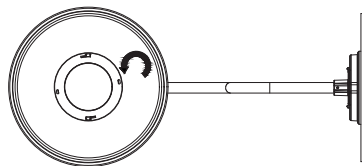

Fig 1
1. Loosen the 2 screws on the cover and rotate them (Fig 1)